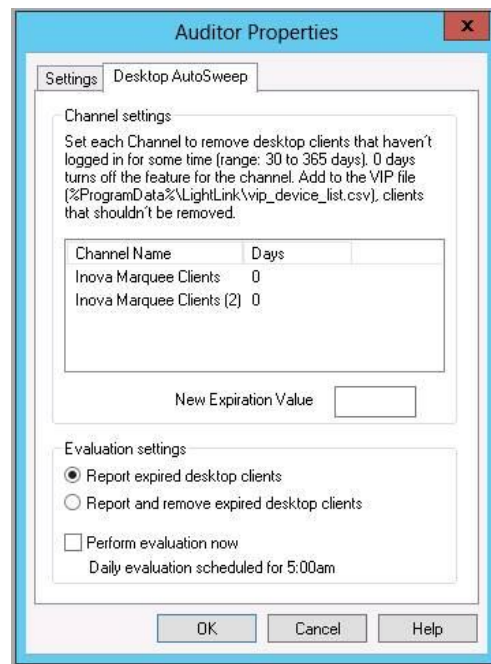

Figure 9
3. Complete the following fields on the Desktop AutoSweep tab (Figure 9):